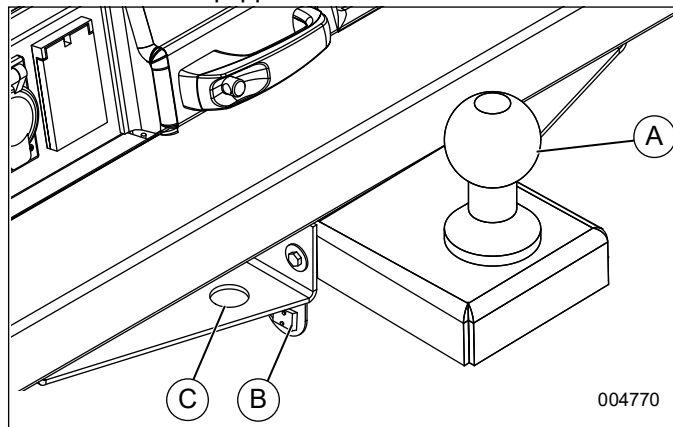

Figure 3-54. Tandem Tow
See Figure 3-54. The tandem tow hitch option (A) allows the operator to tow a second MLTS Light Tower in series behind the unit equipped with the hitch.